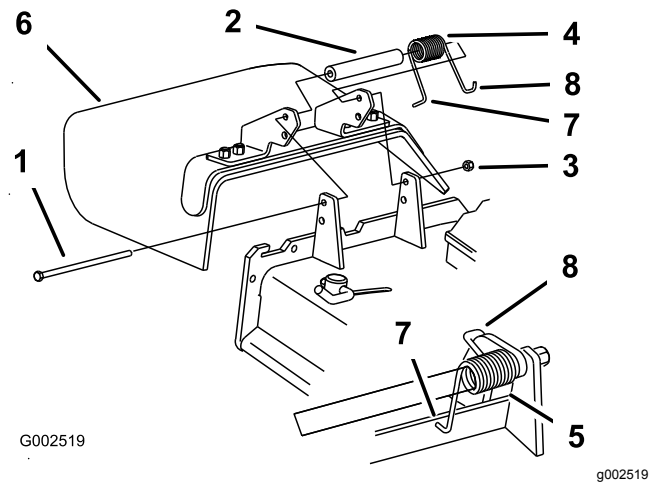

Figure 103
1. Remove the locknut, bolt, spring and spacer holding the deflector to the pivot brackets (Figure 103).
Note: Make sure that the **L** end of the spring is installed behind the deck edge before installing the bolt as shown in Figure 103
5. Place the **J**-hook end of the spring around the grass deflector (Figure 103).